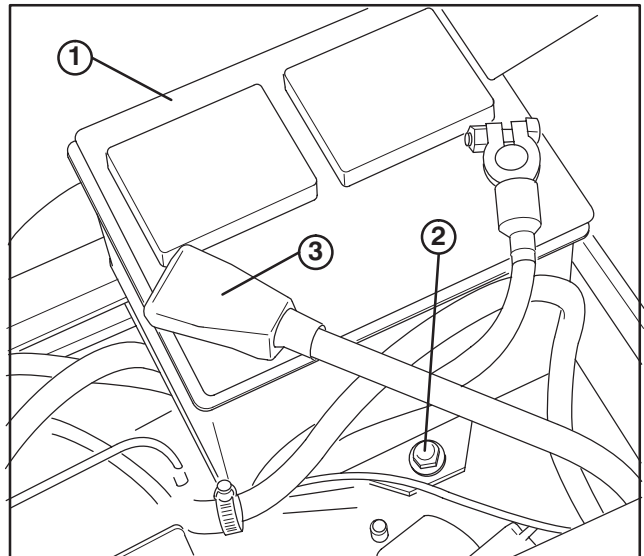

Figure 9
- Lift engine cover. Check to see that the battery is securely fastened in place (Fig. 9).